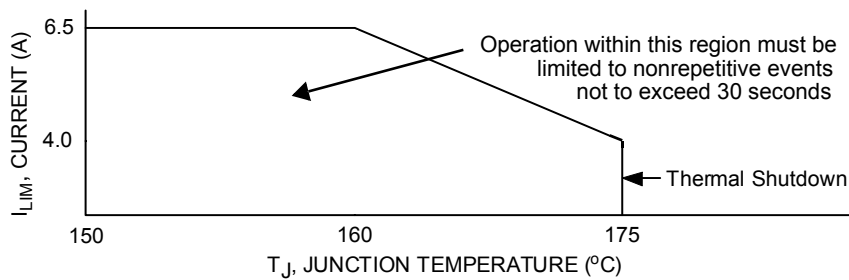
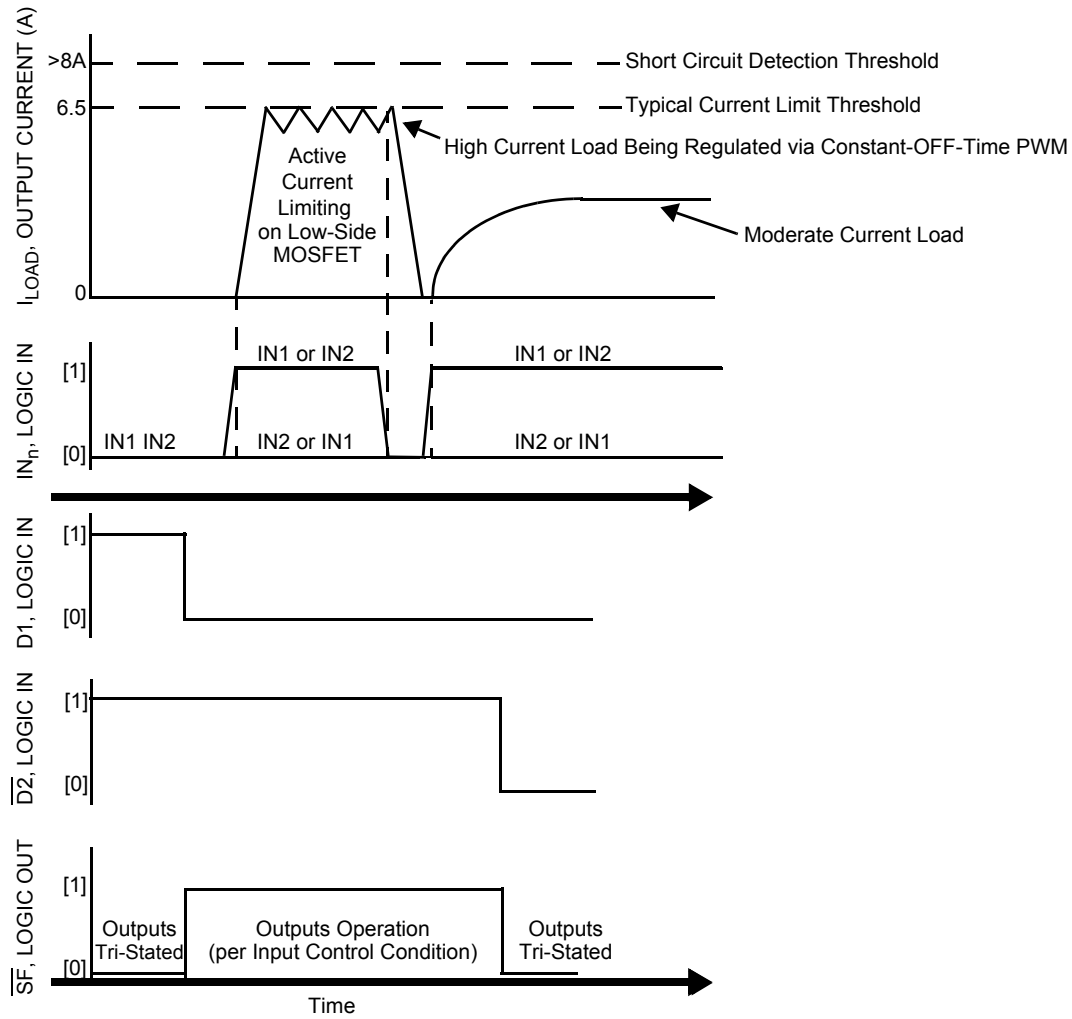

Figure 5. Active Current Limiting Versus Temperature (Typical)
Figure 6. Operating States
27. Load currents ramping up to the current regulation threshold become limited at the I_{LIM} value. The short circuit currents possess a di/dt that ramps up to the I_{SCH} or I_{SCL} threshold during the I_{LIM} blanking time, registering as a short circuit event detection and causing the shutdown circuitry to force the output into an immediate tri-state latch-OFF. See Figures 6 and 7, page 12. Operation in Current Limit mode may cause junction temperatures to rise. Junction temperatures above $\sim 160^\circ\text{C}$ will cause the output current limit threshold to progressively “fold back”, or decrease with temperature, until $\sim 175^\circ\text{C}$ is reached, after which the T_{LIM} thermal latch-OFF will occur. Permissible operation within this foldback region is limited to nonrepetitive transient events of duration not to exceed 30 seconds. See Figure 5, page 11.
The current limiting threshold value is dependent upon the device junction temperature. When $-40^\circ\text{C} \leq T_J \leq 160^\circ\text{C}$, I_{LIM} is between 5.2 A to 7.8 A. When T_J exceeds 160°C , the I_{LIM} current decreases linearly down to 4.0 A typical at 175°C . Above 175°C the device overtemperature circuit detects T_{LIM} and overtemperature shutdown occurs (see Figure 5, page 11). This feature allows the device to remain operational for a longer time but at a regressing output performance level at junction temperatures above 160°C .